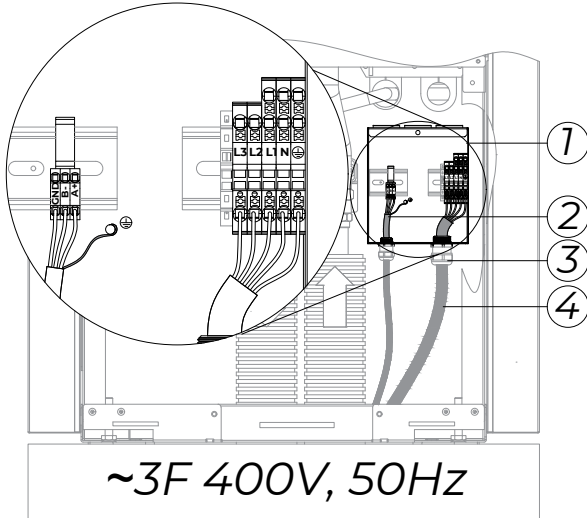

Figure 16: Three-phase ~400V electric connection
Thread the power cable (4) into the electrical box (1) (Figure 16) through the cable gland (3) (see Table 1). Attach the wires to the terminals. Tighten the cable gland so that you unburden the cable.